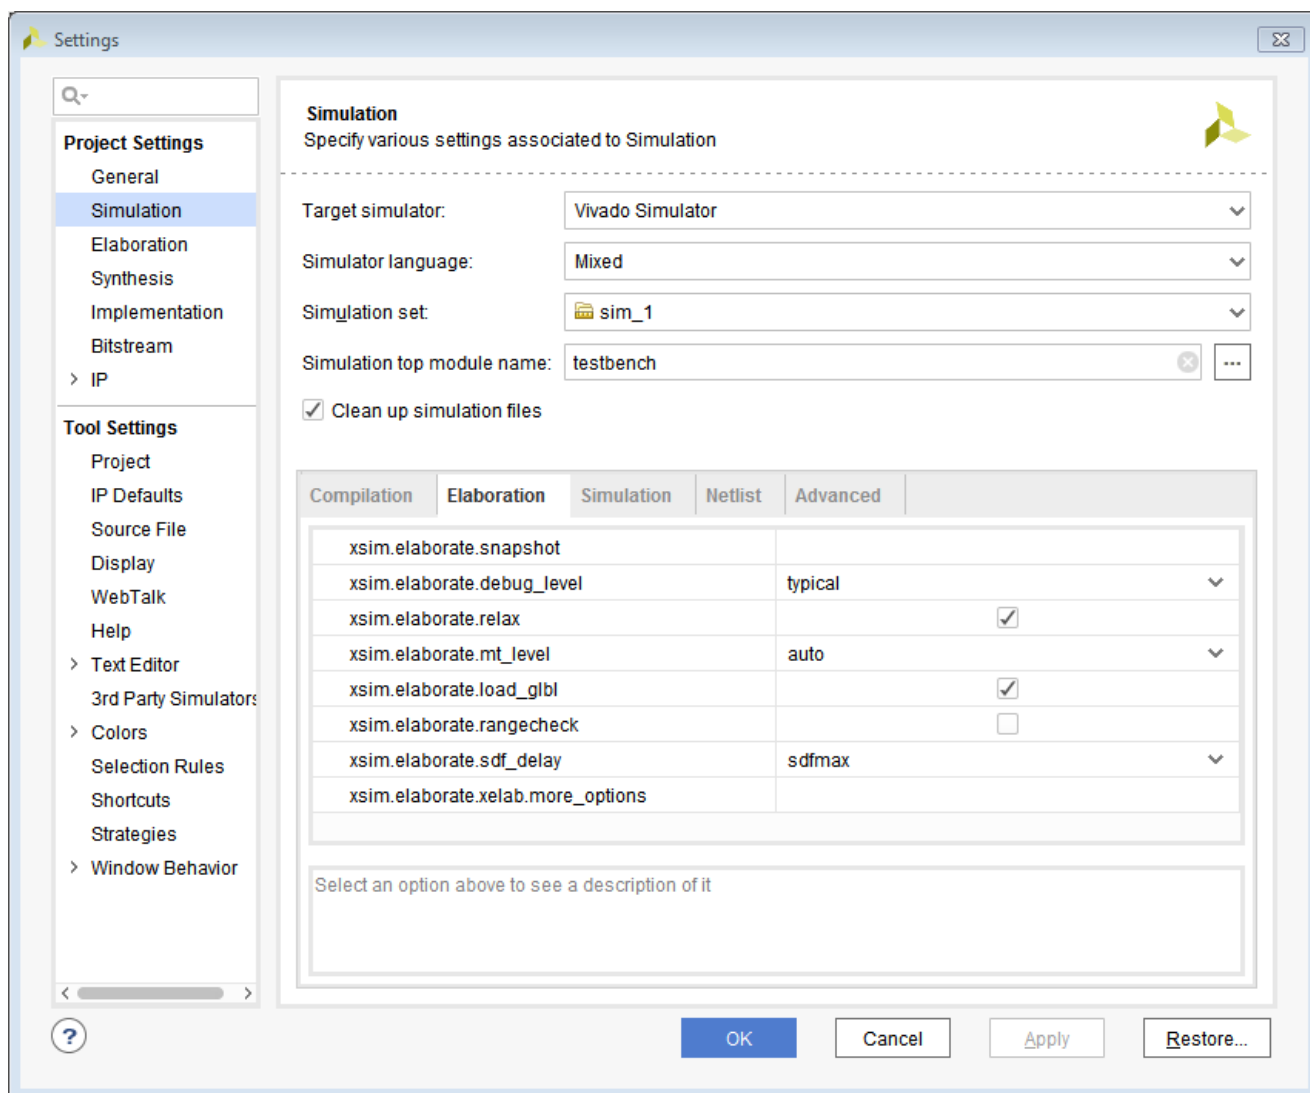

Figure 13: Simulation Settings: Compilation
- In the **Elaboration** tab (Figure 13), ensure that the debug level is set to **typical**, which is the default value.